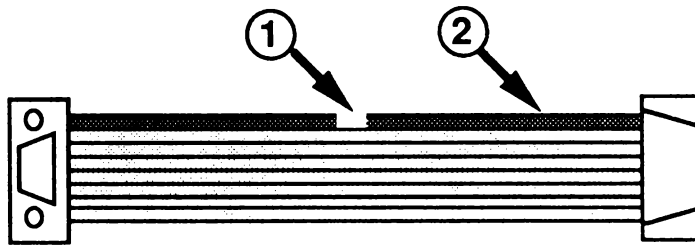

FIGURE 3
The DB-9 cable used to connect the SCSI loopback test card to the game I/O port **must** have wire #1 notched (see Figure 3, #1) to be fully compatible with the interface card. Once the cable is notched, it will work on either the Apple II family or the Macintosh family of computers.
1. Locate the colored (usually red) wire on one edge of the ribbon cable (see Figure 3, #2).